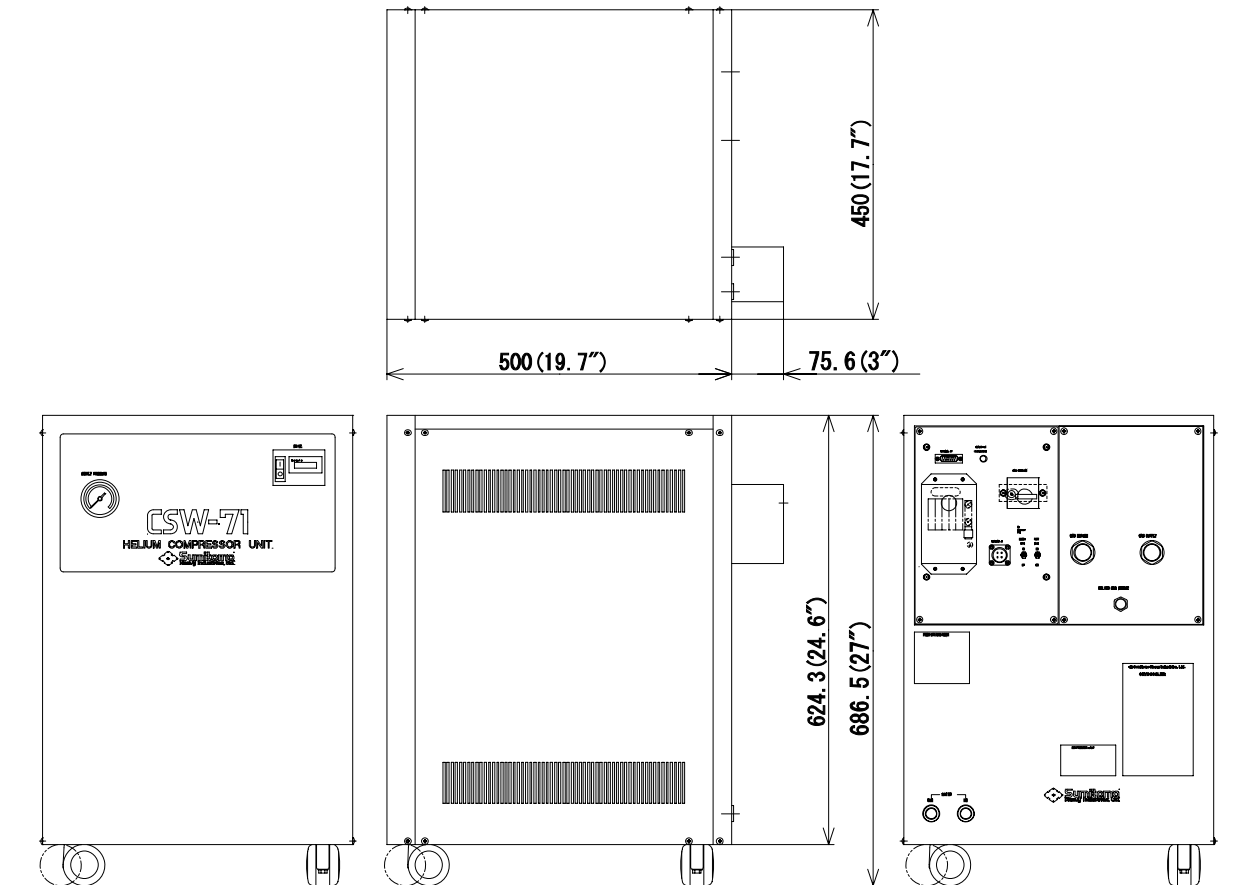

Figure 1.2 OUTLINE VIEW FOR CSW-71D COMPRESSOR UNIT
* Input Power Cable Terminal Cover is 98.0 mm (3.9'). See the **Figure 1.2**.